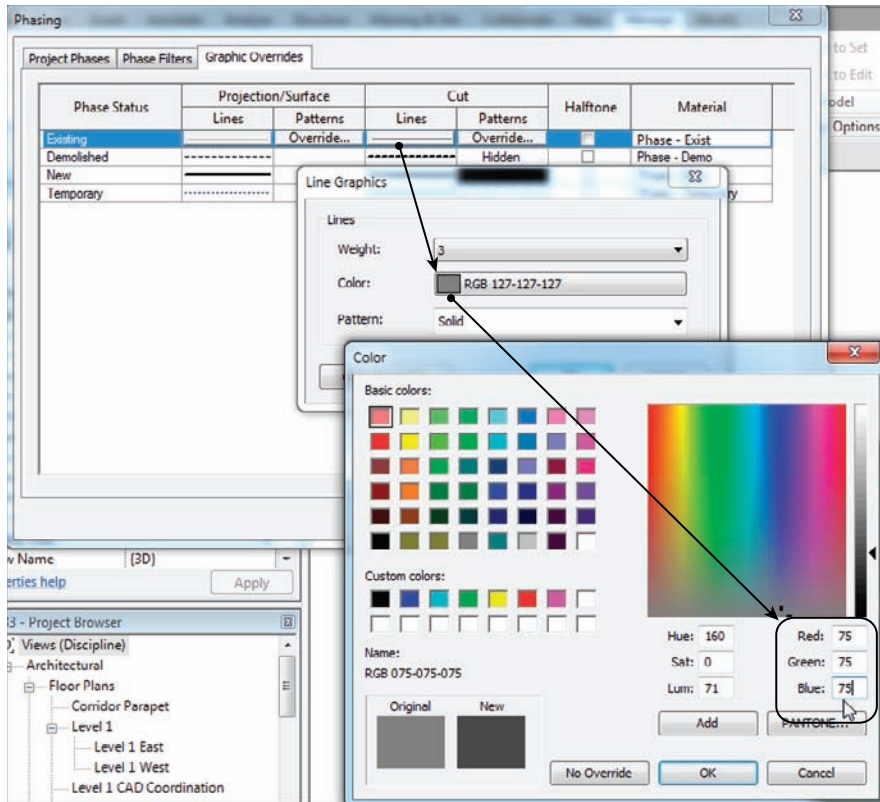

FIGURE 21.8 Making the existing shading darker
3. For the Lines column under the Cut heading, click the button that displays a shaded line, as shown in Figure 21.8.
5. Change the shading of the line to 75, 75, 75 as shown in Figure 21.8.